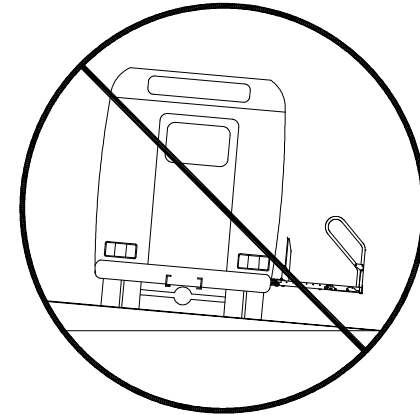

FIGURE 2-1: SLOPED PARKING HAZARD
- Refer to **Figure 2-1**. Operate the lift only when vehicle is parked on level ground. Using the platform while it is inclined is hazardous.